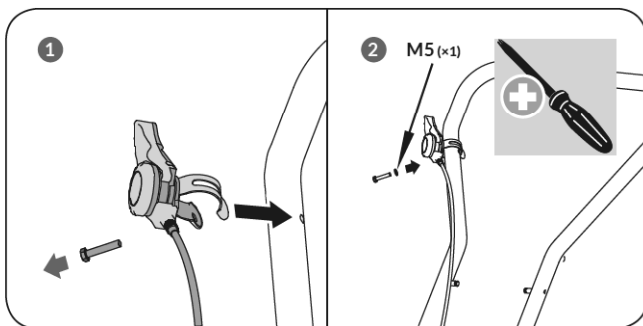

Figure 3c
4. Unscrew bolt 5×35 from throttle control. Secure the throttle control onto the upper handle with a flat washer 5 and the bolt 5×35 that just were unscrewed. (See **Figure 3c, illustration 1 & 2**)